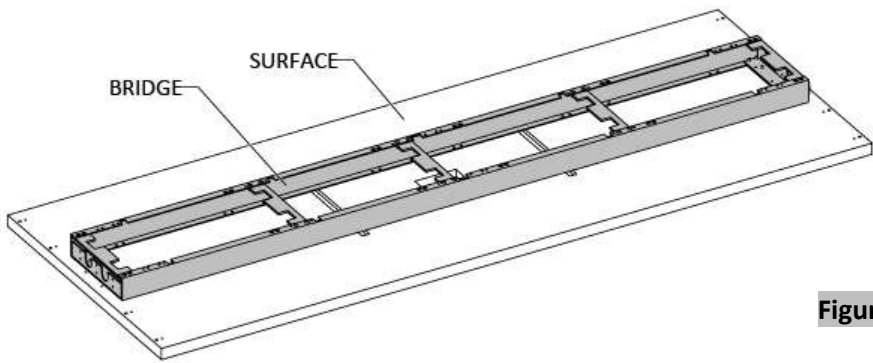

Figure 2
- 14. Position the bridge on the surface, (Figure 2).